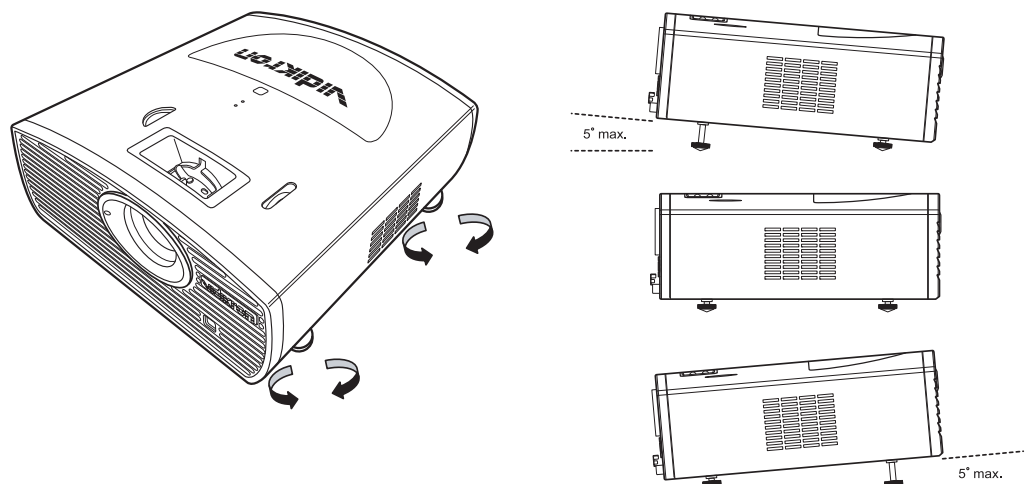

Figure 3-8. Adjusting the Feet
When the Vision 15 is installed upright, you can adjust the projector height or projection angle by turning the four adjustable feet on the bottom of the projector; see Figure 3-8. This is useful for correcting the angle of projection when the projector is placed on an uneven surface or when the screen is at an angle. You can tilt the projector up to five (5) degrees up or down by adjusting the feet.